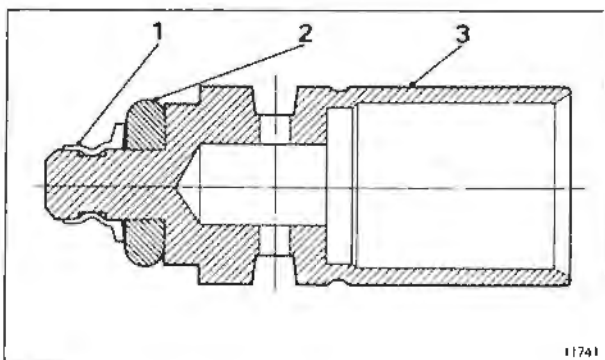

Fig. B2-44 Regulating plunger sealing ring
6. To fit a new 'O' ring (see fig. B2-44) commence by cutting off the old ring with a very sharp blade. **Do not**